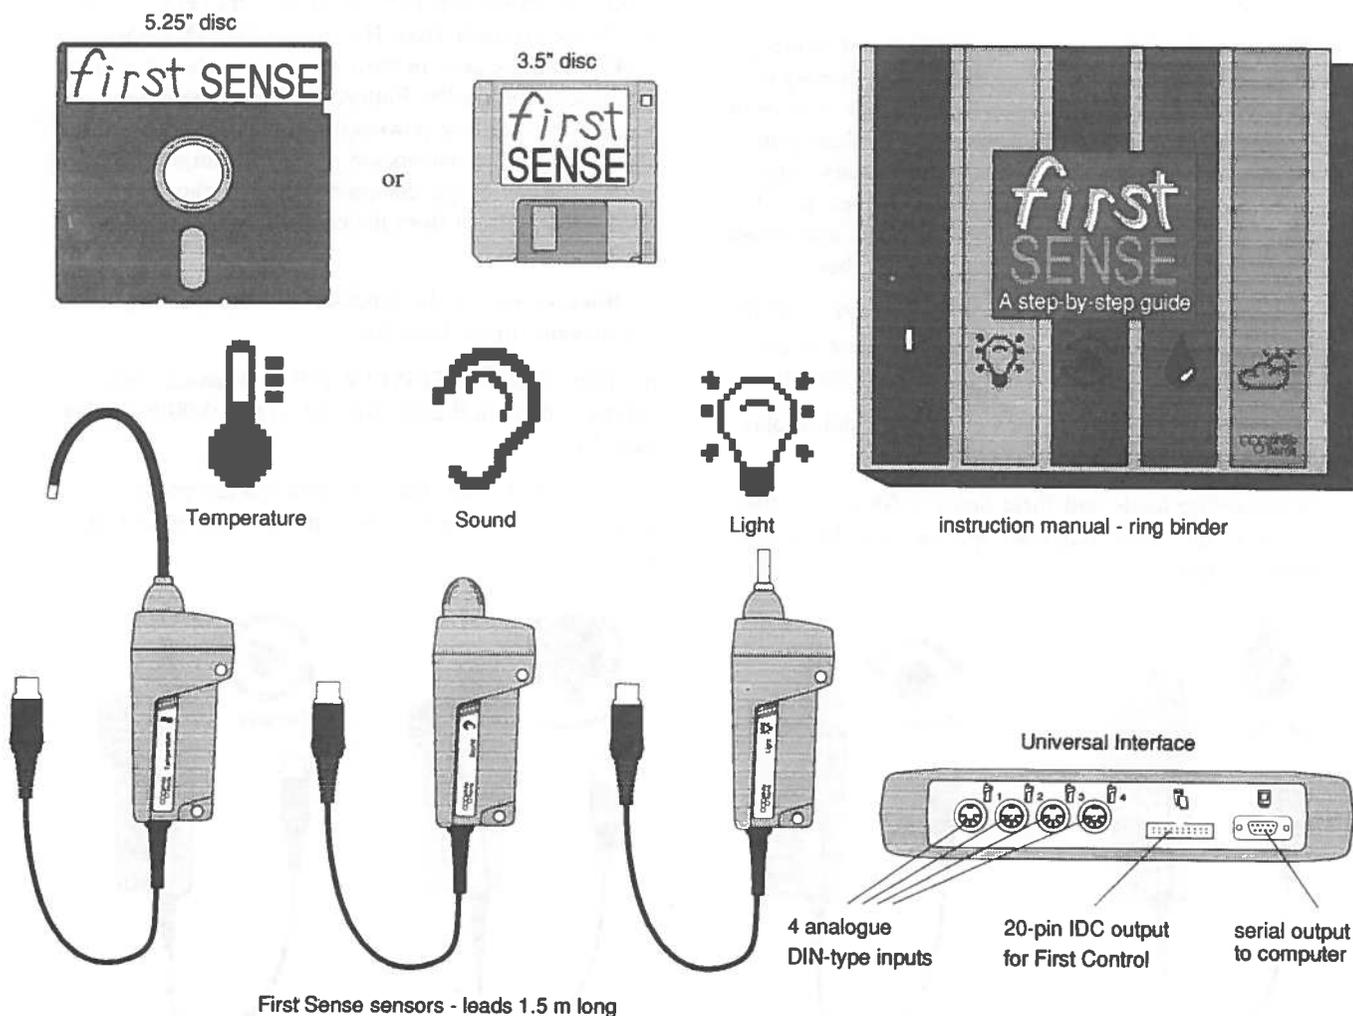

Fig. 1 - First Sense Basic Kit
Here we report mainly on the *First Sense Basic Kit* which comprises one Universal Interface; three First Sense sensors; software and an instruction manual (Fig.1). The style of the report broadly follows that of our datalogger reviews in Bulletin 169.
**Connections (see Fig.1):**